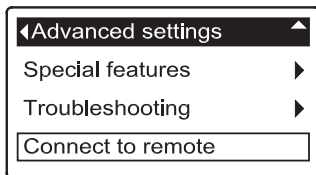
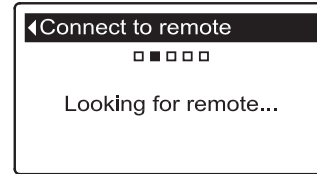

FIG. 18
FIG. 19
4. Press the conditioner/refiner’s SELECT (O) button to display the Advanced settings menu (See Figure 18).
9. Make sure the conditioner/refiner’s display still shows the screen in Figure 18. Press the conditioner/refiner’s SELECT (O) button to display the “Looking for remote” screen (See Figure 19).
10. Within a few seconds the screen should change to show “Remote found” (See Figure 20). If, after about one minute, the conditioner/refiner’s screen instead reads “New remote not found,” press the conditioner/refiner’s SELECT (O) button to return to the screen in Figure 18 and press the remote’s LEFT (◀) button to return to the screen in Figure 101. Then repeat this procedure from Step 8. If the remote is not found after several tries, contact your dealer for service. Take note of the message on the remote’s screen after an unsuccessful attempt, as it indicates the nature of the problem.
11. Press the conditioner/refiner’s SELECT (O) button. The display will go back to the Advanced settings menu (Figure 18).